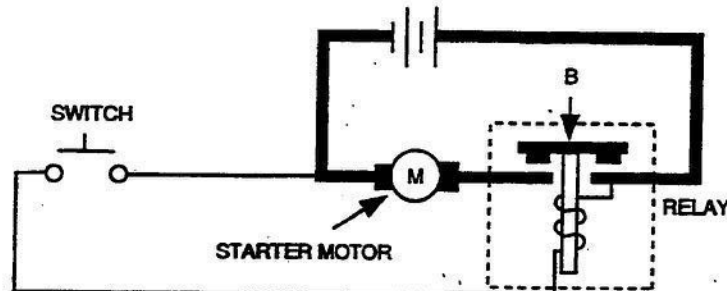

Figure 2-69. Starting relay.
**Starting relay.** A common use of this relay is in an automobile starter circuit. The ignition switch activates a relay that, upon closing, permits a large current to flow in the starter motor circuit. Figure 2-69 illustrates the starting relay circuit.